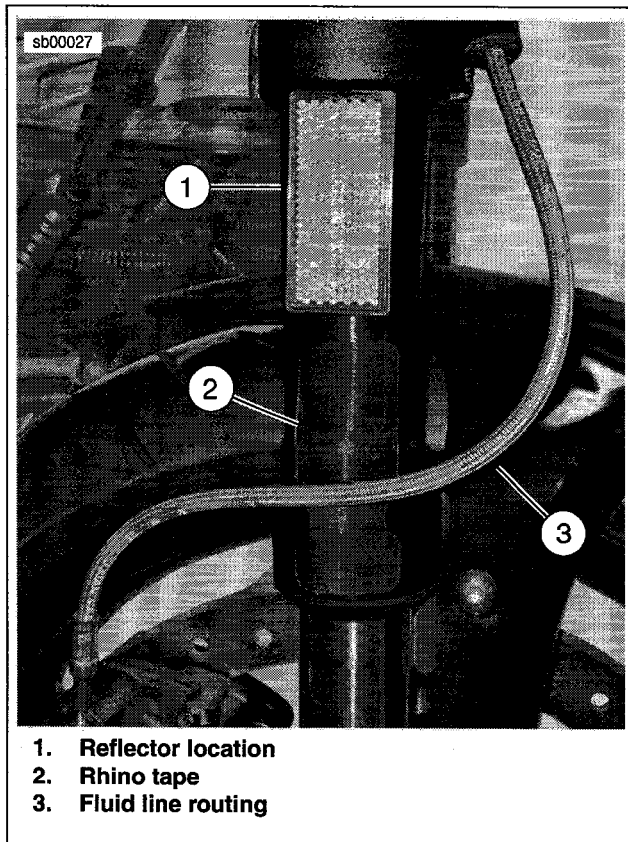

Figure 1. Reflector/Rhino Tape Location (XB12Scg)
1. **XB12R/XB12Scg:** See Figure 1. Remove the reflectors on the outer fork tubes and install **new** reflectors pressed up against the lower triple clamp.